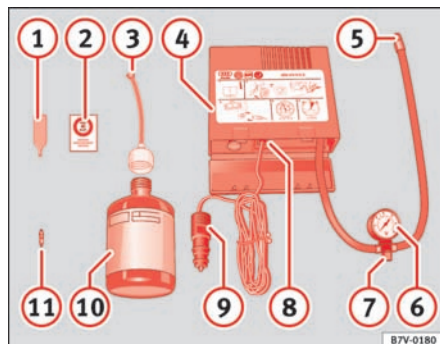

Fig. 156 Contents of anti-puncture kit
- Thread the inflating tube $\Rightarrow$ fig. 156 **5** on the valve.